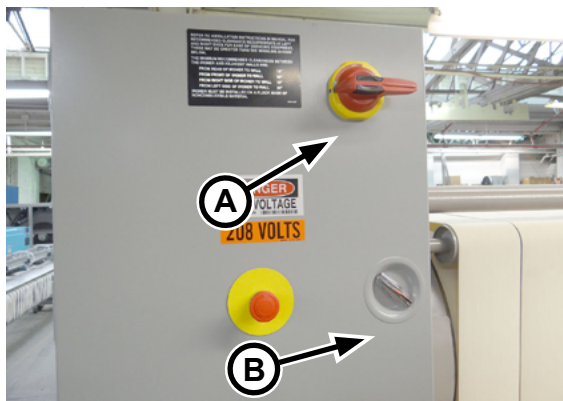

Figure 2-11: The main disconnect switch (A) and latch (B) secure the door of the electrical connection box.
1. The main disconnect switch is located on the electrical connection box at the left rear of the unit (Figure 2-11, A). Turn it to the OFF position.
2. Turn the door latch (Figure 2-11, B) on the electrical connection box counterclockwise; then, open the electrical connection box.